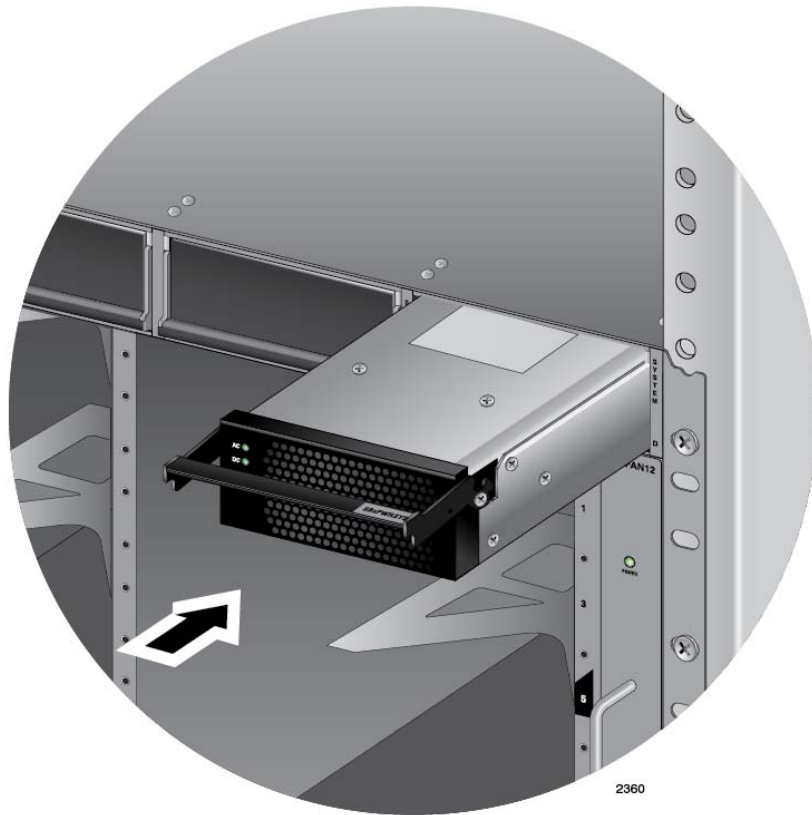

Figure 56. Inserting the AT-SBxPWSYS1 or AT-SBxPWSYS2 AC Power Supply
5. Align and insert the power supply into the power supply slot. Figure 56 shows the power supply being installed in slot D.